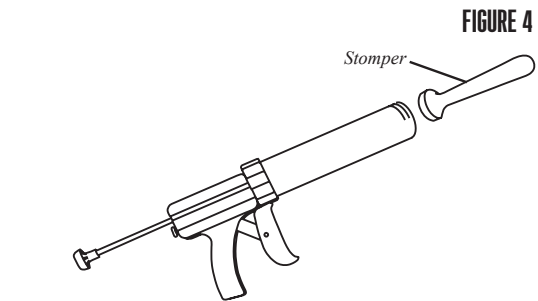

FIGURE 4
6. With wet hands, form balls of the ground meat mixture and drop them into the Tube. Using the Stomper, press the mixture firmly into the Tube, squeezing out any trapped air. Repeat this step until the Tube is filled up to 1" (2.5 cm) from the top (**Figure 4**).